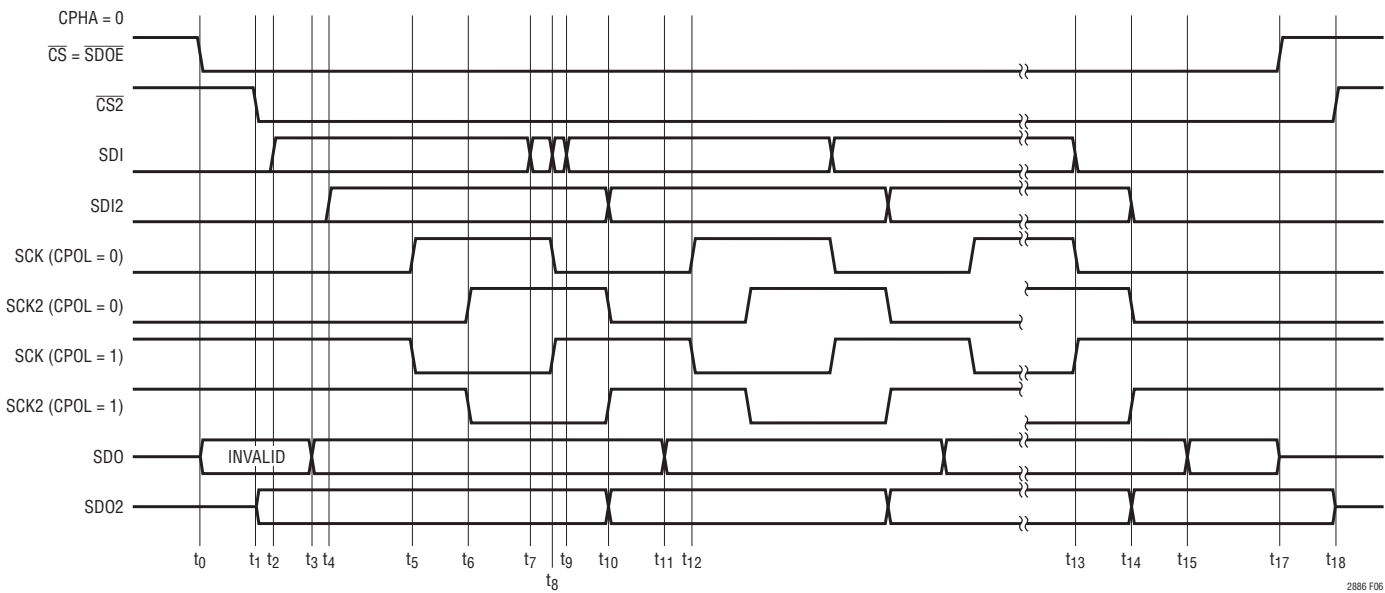
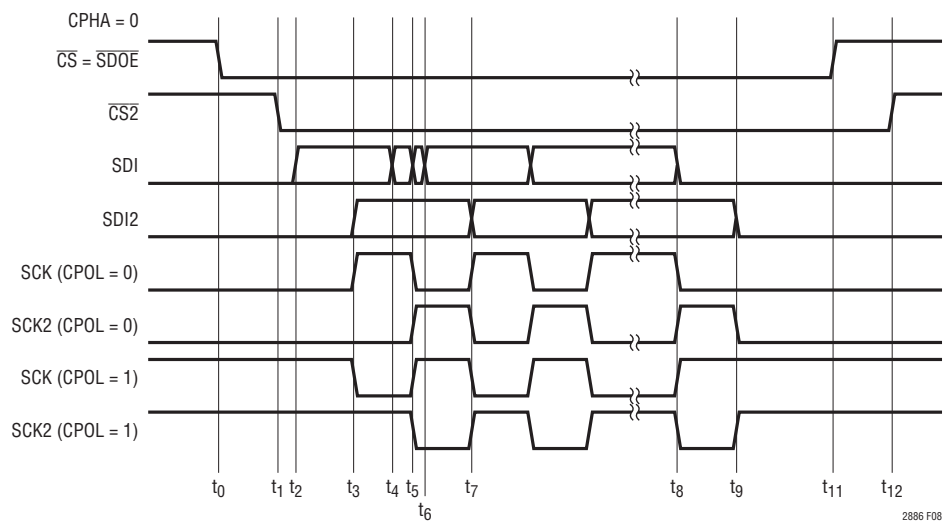

Figure 6. SPI Timing, Bidirectional, CPHA = 0
Figure 8. SPI Timing, Unidirectional, CPHA = 0
The LTM2886-S provides a SPI compatible isolated interface. The maximum data rate is a function of the inherent channel propagation delays, channel to channel pulse width uncertainty, and data direction requirements. Channel timing is detailed in Figures 6 through 9 and Tables 2 and 3. The SPI protocol supports four unique timing configurations defined by the clock polarity (CPOL) and clock phase (CPHA) summarized in Table 1.
The maximum data rate for bidirectional communication is 4MHz, based on a synchronous system, as detailed in the timing waveforms. Slightly higher data rates may be achieved by skewing the clock duty cycle and minimizing the SDO to SCK set-up time, however the clock rate is still dominated by the system propagation delays. A discussion of the critical timing paths relative to Figures 6 and 7 follows.
Maximum data rate for single direction communication, master to slave, is 8MHz, limited by the systems encoding/decoding scheme or propagation delay. Timing details for both variations of clock phase are shown in Figures 8 and 9 and Table 3.
- SDI and SCK set-up data transition occur within the same data packet. Referencing Figure 6, SDI can precede SCK by up to 13ns ($t_7 \rightarrow t_8$) or lag SCK by 3ns ($t_8 \rightarrow t_9$) and not violate this requirement. Similarly in Figure 8, SDI can precede SCK by up to 13ns ($t_4 \rightarrow t_5$) or lag SCK by 3ns ($t_5 \rightarrow t_6$).